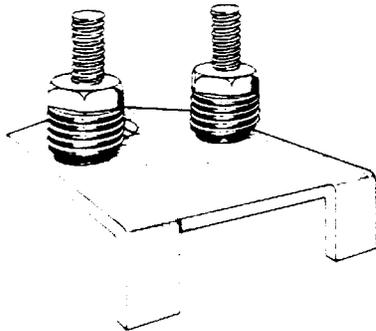
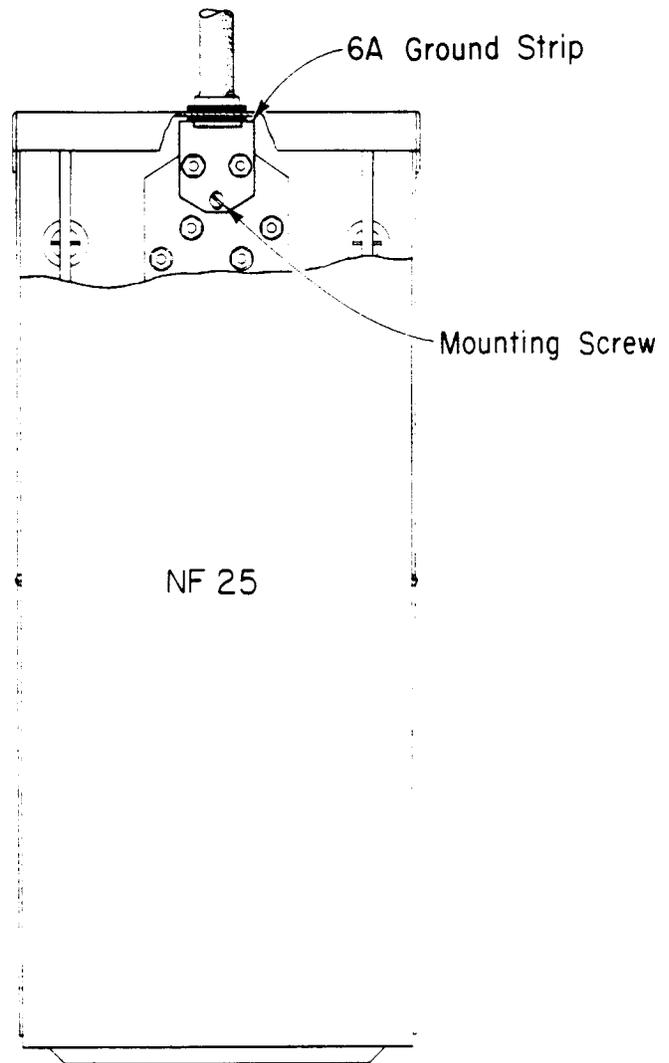

Figure 68—6A Ground Strip
Figure 69—6A Ground Strip Installed in NF25 Cable Terminal
7.07 The 6A ground strip (Figure 68) is intended for use in 25-pair NC, NF, and NH cable terminals and is mounted in the same manner as the 5A strip (Figure 69).